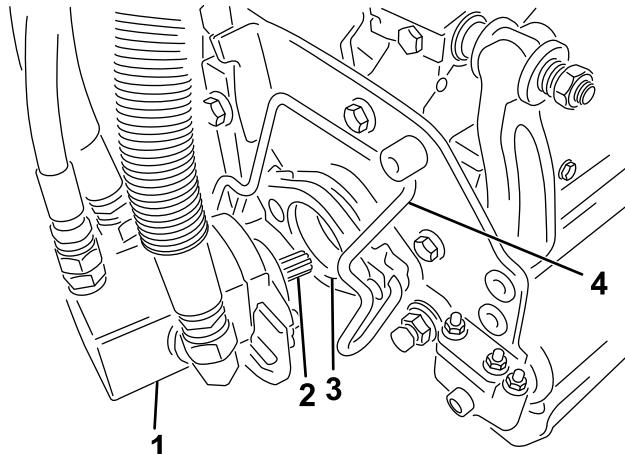

Figure 35
5. Coat the spline shaft of the cutting unit motor with clean grease (Figure 35).
6. Insert the motor into the left side of the cutting unit (as viewed from the operator’s position) and pull the motor retaining bar on the cutting unit toward the motor until you hear an audible “click” from both sides of the motor (Figure 35).